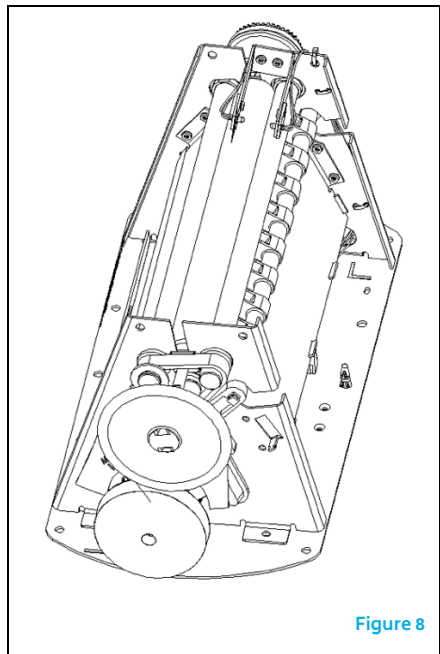

Figure 8
- Locate the optical sensors as shown in Figure 8. The sensors is made of a translucent plastic material.